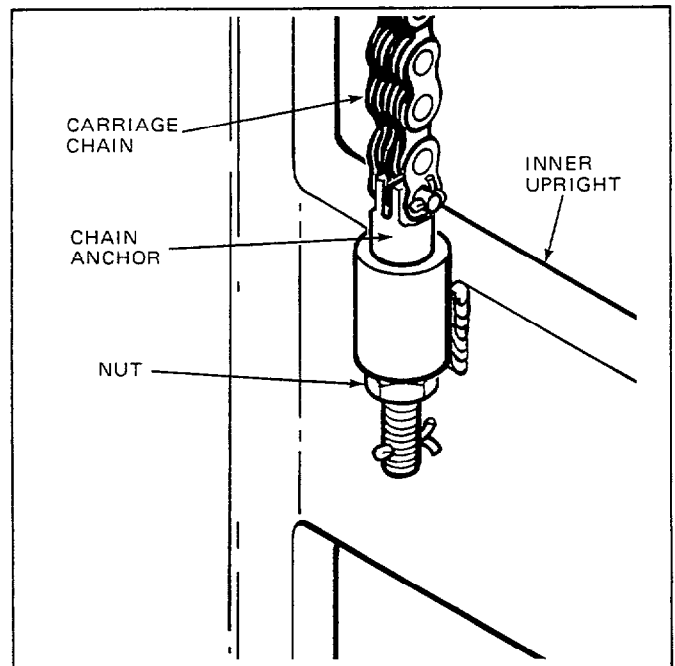

Figure 49. Carriage Chain Adjusting Nut
1. Locate the carriage chain anchors on the inner upright. See Figure 49.